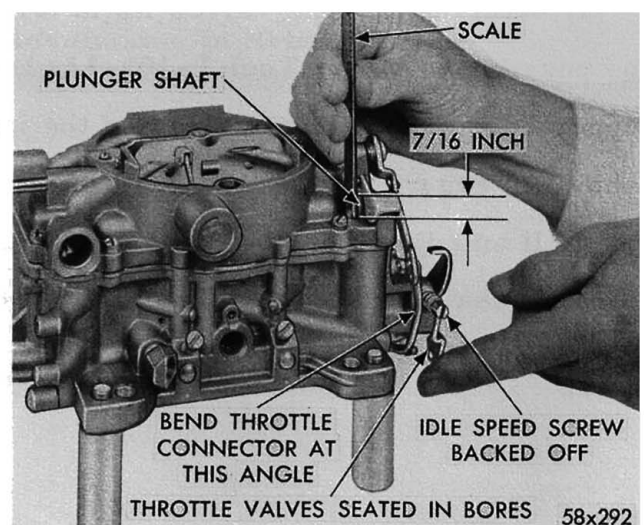

Fig. 4-Measuring Accelerator Pump Travel
(1) With the choke valve wide open (to release the fast idle cam) close the throttle valves. Measure the distance from the top of the plunger shaft, using a "T" scale, as shown in Figure 4. This distance should be $7/16$ inch.
(2) If an adjustment is necessary, bend the throttle connector rod at the lower angle, using Tool T-109-213, until correct travel has been obtained.